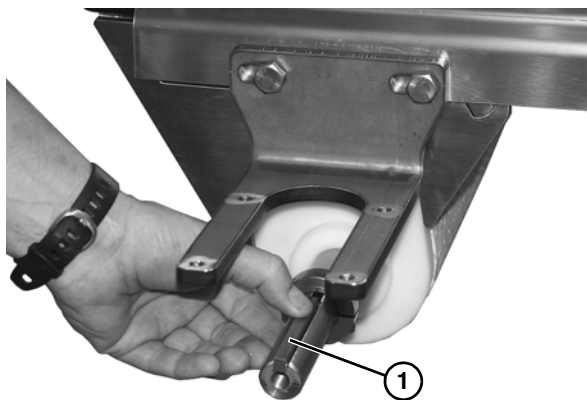

Figure 18
7. Insert the drive spindle key (**Figure 18, item 1**) into the drive spindle keyway.